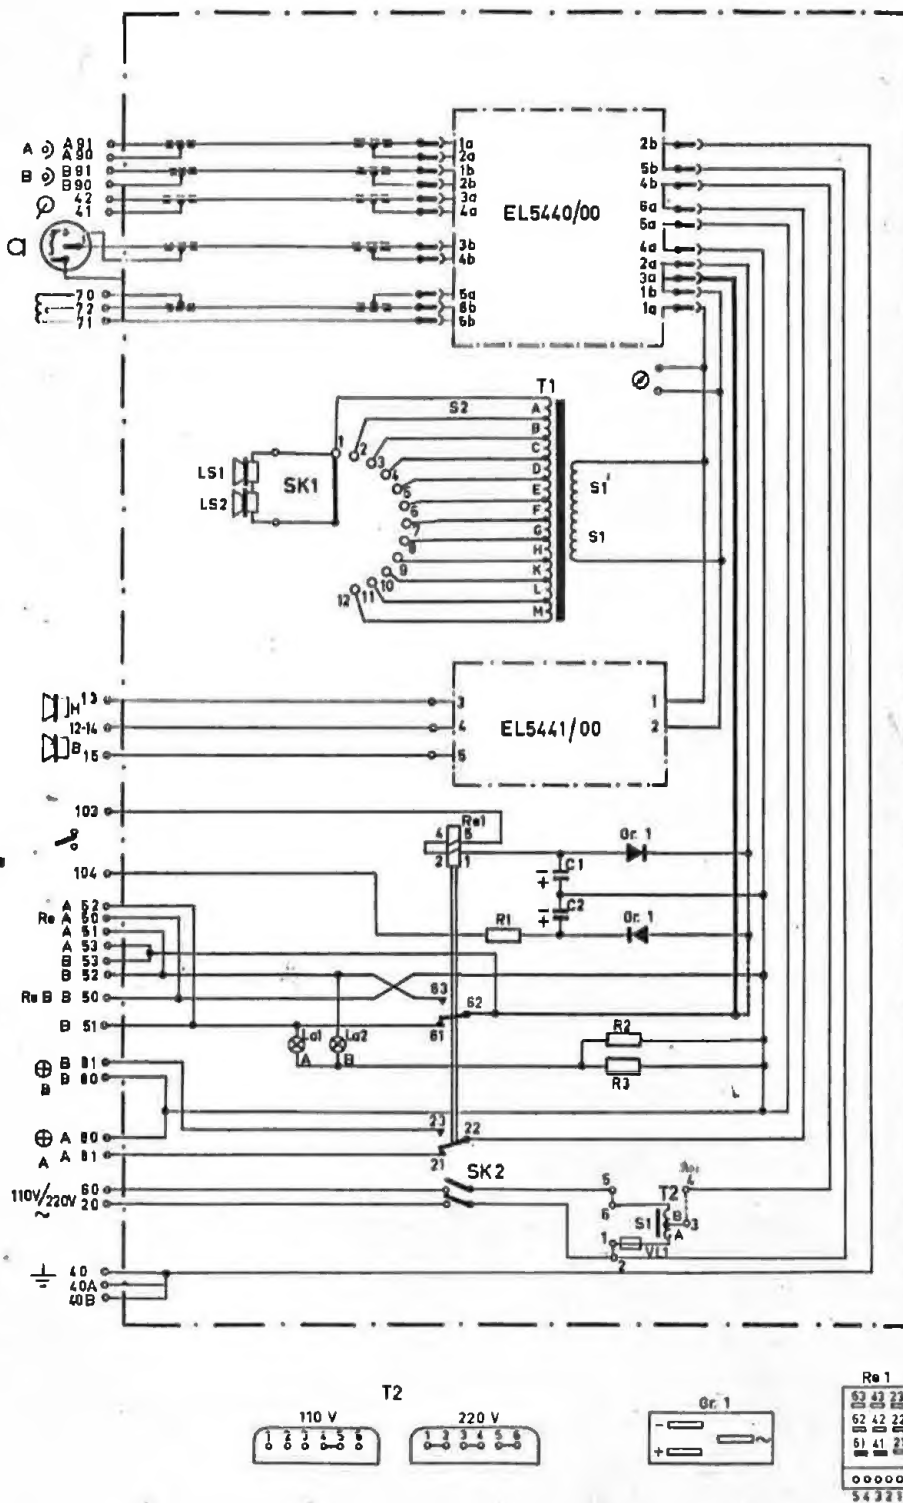

Fig 5
a. Loosen point 2a from point 62 of RE1 (dotted line, fig. 5).
b. Connect point 3a (of the female plug) of the EL 5440/00 to point 63 of RE1 (heavy line in fig. 5).